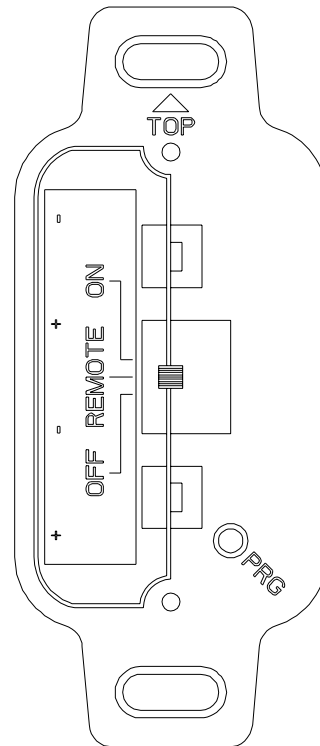

Figure 71. Burner Control Switch and remote initialization button.
3. Press the black initialization button (PRG) at the lower right of the battery box faceplate (fig. 71 page 34). The board will “beep” three times signalling a 10-second synchronization time limit.